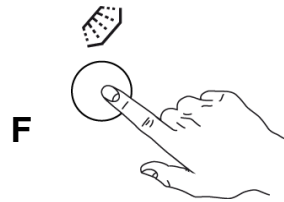

Fig.31
- 2- Press button "F" cold final rinse before or right after have started washing cycle. (Fig.31)